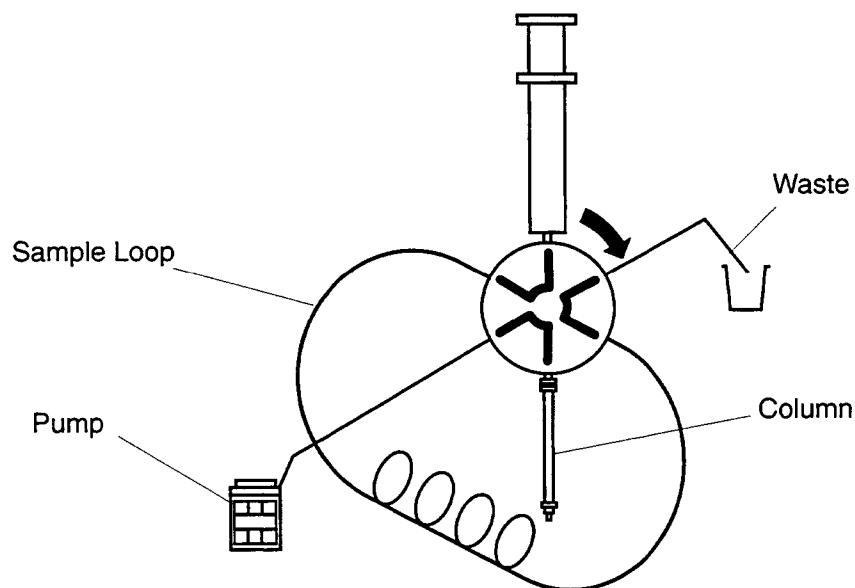

Fig. 5.5. Tubing connection for post-pump injector valve placement.
3. Connect the mixer to the injector valve, and the injection valve to the pump, as shown in Figure 5.5. Arrow indicates rotation direction of valve.